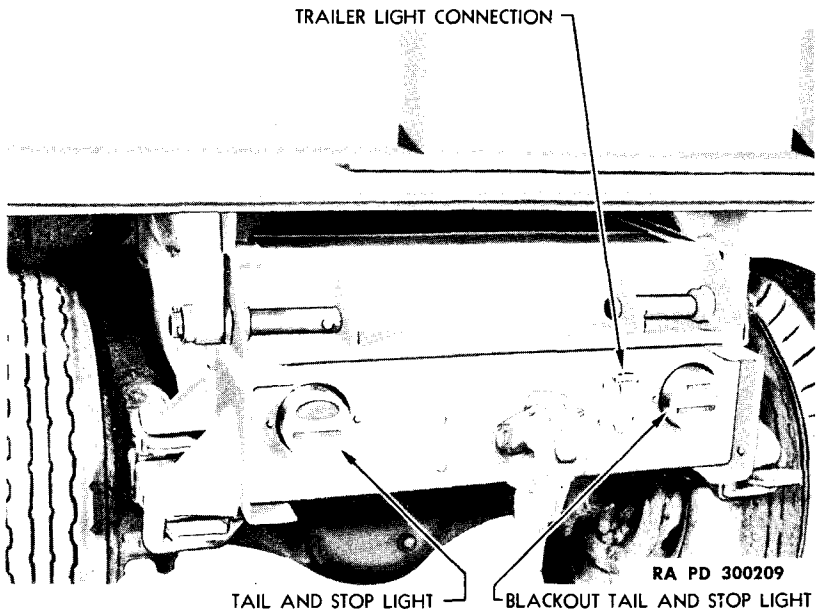

Figure 123—Anthony Body Mounting
(3) Anthony body is attached to subframe by means of two forged sections welded to the body frame. Pivot action is obtained by two large hinge pins fitted at the rear corners of the subframe (fig. 123).